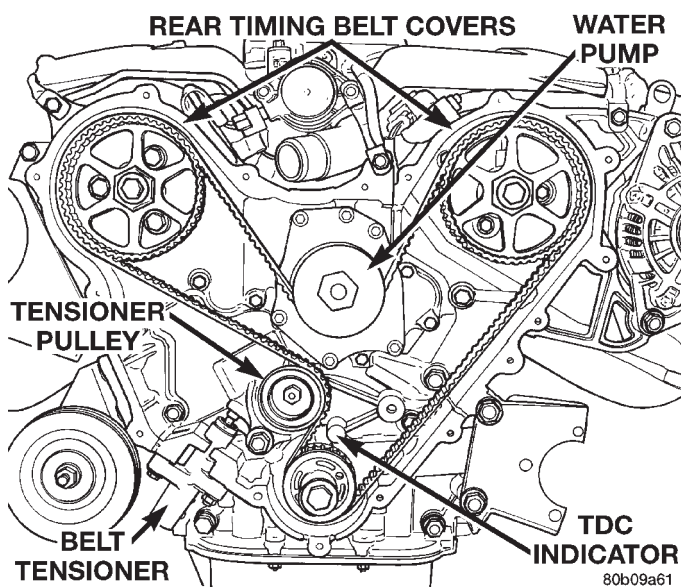

Fig. 49 Timing Belt System
(1) Place crankshaft sprocket to the TDC mark on the oil pump housing (Fig. 49).